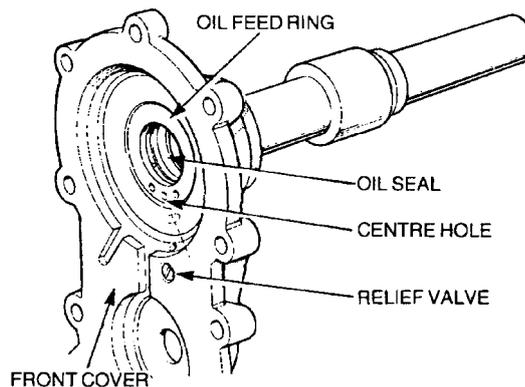

Figure 175 Installing the Oil Feed Ring and Relief Valve
- ii. Carefully align the centre oil hole on the oil feed ring with the oil delivery hole in the front cover and, using the bearing replacer and adaptor ring (Table 3, Serial 45 and 46), press the oil feed ring into the front cover (Figure 175).